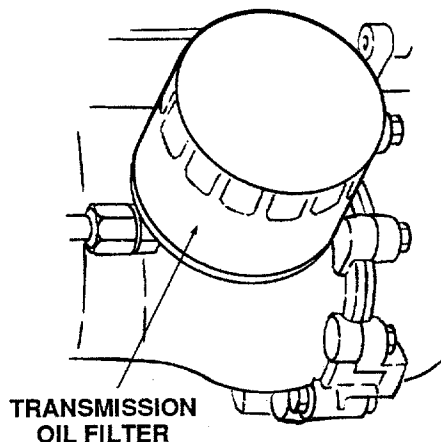

Figure 23
3. Clean around the base of the transmission oil filter and remove the filter by turning it counterclockwise (Refer to Figure 23).